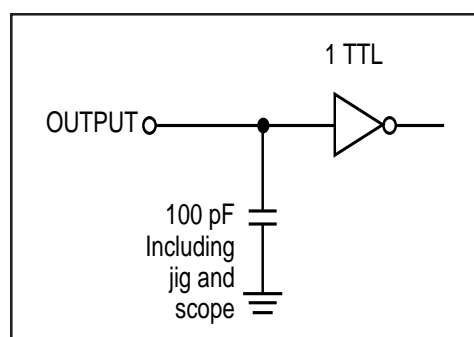

Figure 1.
1. Test conditions assume signal transition times of 5 ns or less, timing reference levels of 1.5V, input pulse levels of 0.4V to 2.2V and output loading specified in Figure 1.
Output Load	See Figures 1